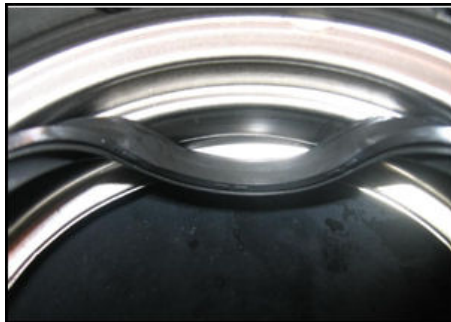

Figure 11
- Ensure that the seals are in the proper position and not damaged (Figure 11). Damaged or missing seals should be replaced. The seals are available separately, it is not necessary to replace the entire hose.